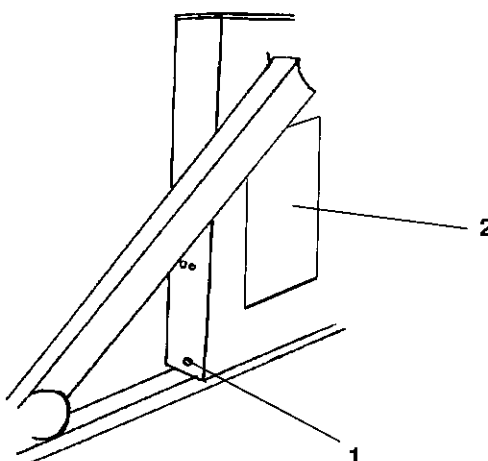

Fig. 7-14
- Open the oil drain plug (Fig. 7-14, 1) and drain off the oil.
- Tighten oil drain plug back up and open cover (Fig. 7-14, 2).